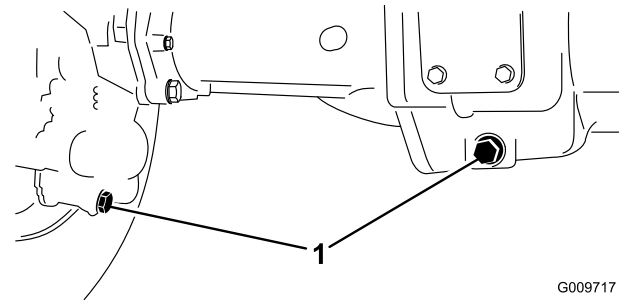

Figure 67
2. Clean the area around the 3 drain plugs, 1 on each end and 1 in the center (Figure 67).